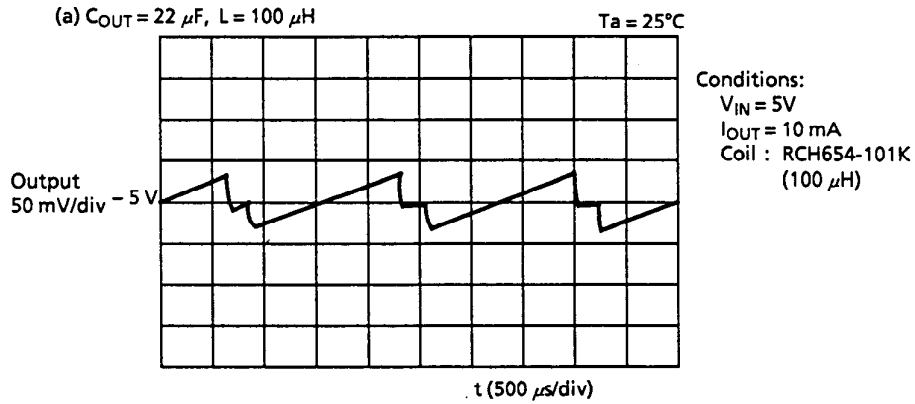

Figure 8
Using an inductor with a large L value decreases I_{PK} and I_{OUT}. Since the energy accumulated in the inductor is ½L(I_{PK})², I_{PK} decreases in steps of squares offsetting the increase of L, and the energy decreases overall. Accordingly, stepping up at low voltages is difficult and the minimum operating voltage must be specified as a high value. However, the DC resistance loss in L and the M1 transistor becomes small because of the reduced I_{PK}, and the efficiency is improved overall. As indicated in the equation (16), the ripple voltage can be reduced by decreasing I_{PK}. Figures 8 to 10 show the output voltage waveforms when the L value and C_{OUT} value are changed.